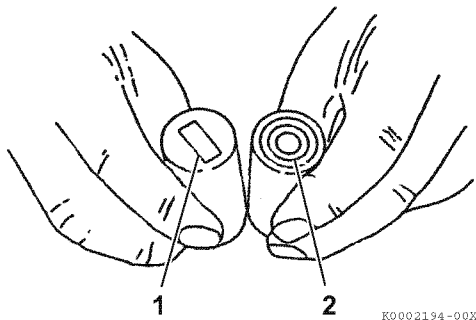

Figure 6-69
- Inspect the tappet contact surfaces for abnormal wear (**Figure 6-69, (1)**). Normal wear will be even as shown in **Figure 6-69, (2)**. Slight surface defects can be corrected using an oilstone.